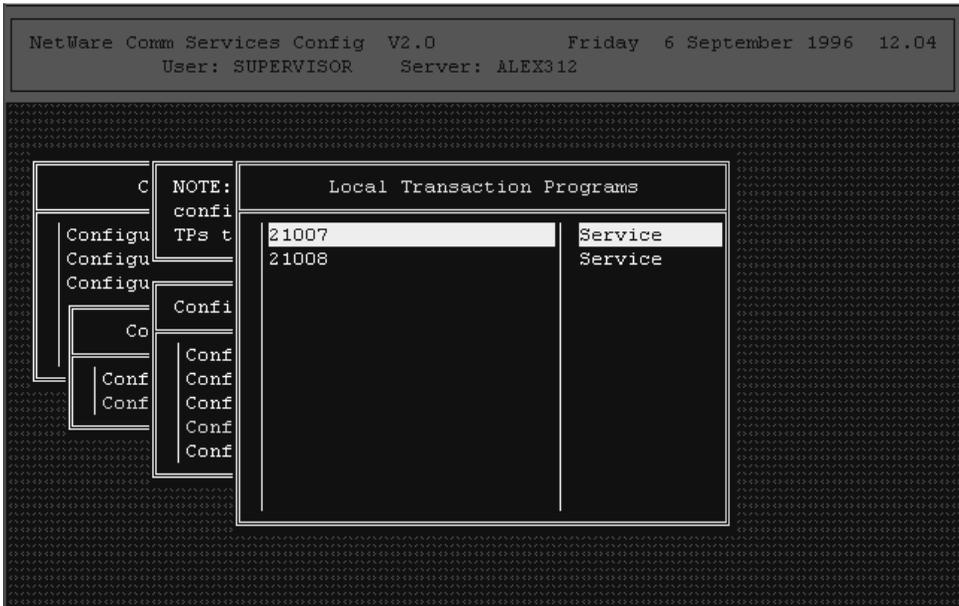

Figure 25. Specifying Transaction Programs
- 7 For each partner LU, specify the transaction programs that manage the SNA connection. Specify exactly the values shown in Figure 25. 21007 is the transaction program for send, and 21008 is the transaction program for receive.